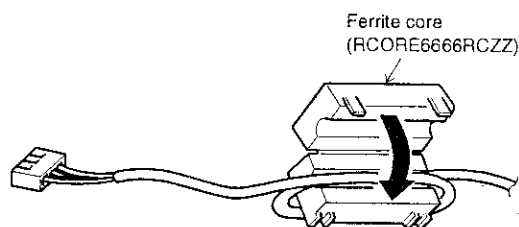

Fig. 5
- 4) Attach the ferrite core (RCORF6666RCZZ) to the drawer cable. (Use the accessory ferrite cores of the ER-A670 for the second drawer.) For the third and more drawers, optional Ferrite cores are required. (Fig. 5)